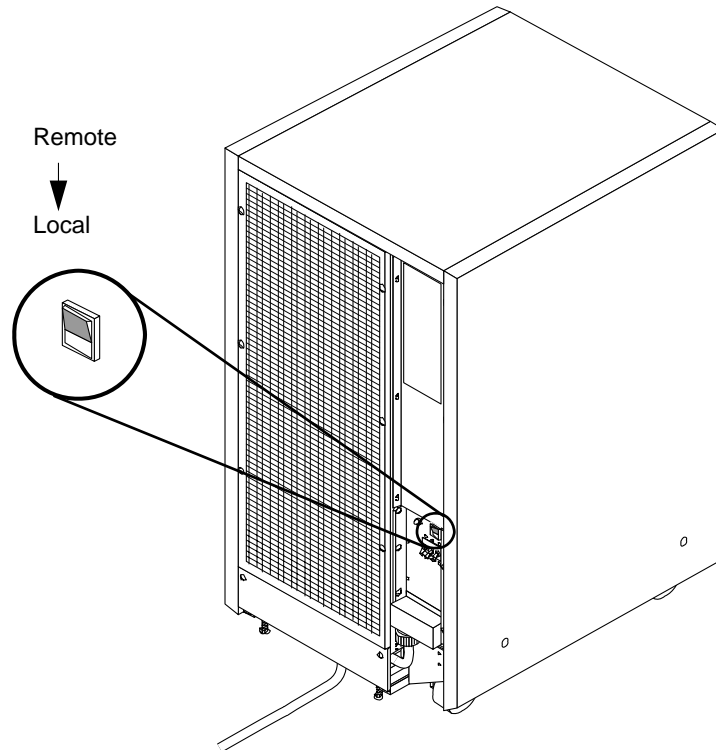

Figure 7-18 Local/Remote Switch Location
- 2. Turn the Local/Remote switch down, to Local.** See Figure 7-18.